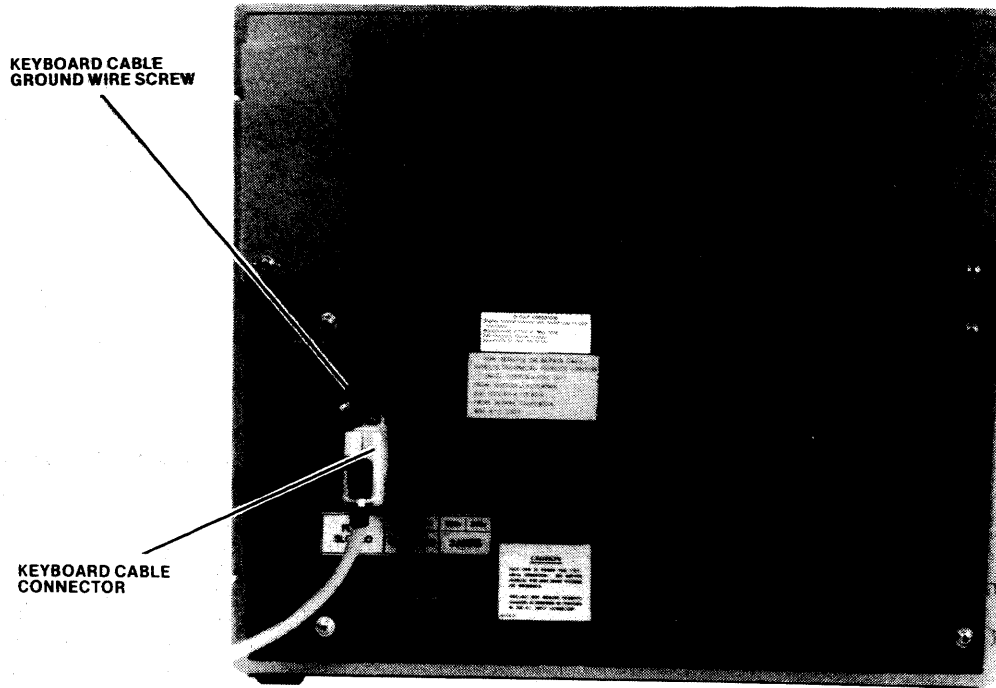

Figure 2-10. Keyboard Cable Rear Panel Connection
- o. Insert free end of keyboard cable into KEYBOARD connector J1 on rear chassis panel. *Do not route keyboard cable underneath chassis.* Fasten keyboard cable ground wire to screw next to connector J1. (See figure 2-10.)